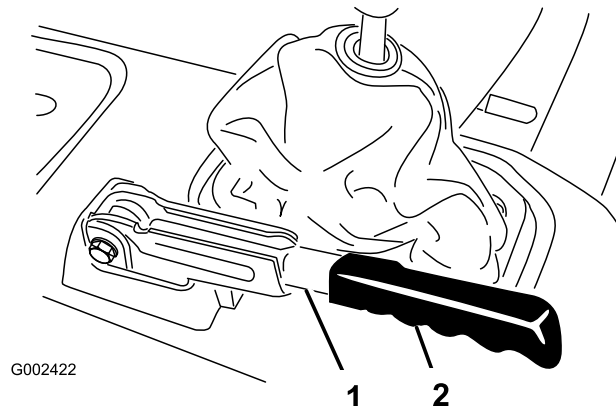

Figure 47
1. Remove rubber grip from parking brake lever (Figure 47).